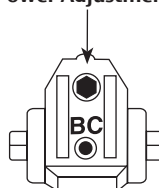

Figure 13
1. Using 1/8" hex wrench, turn power adjustment screw clockwise to increase door closing power. (Figure 13)